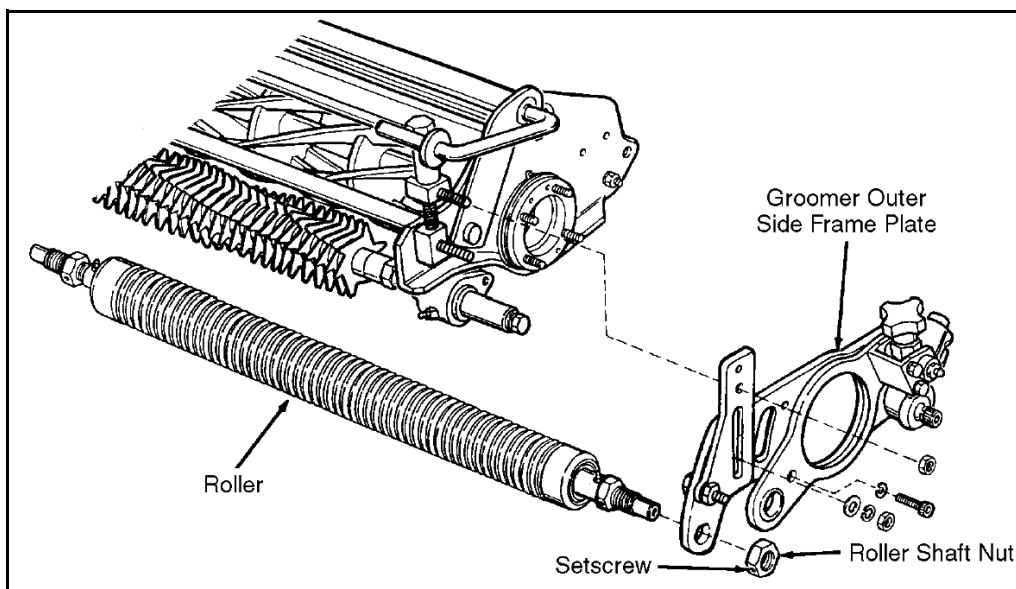

Figure 13C-1. Roller Removal
1. Remove the snap ring (Figure 13C-2).